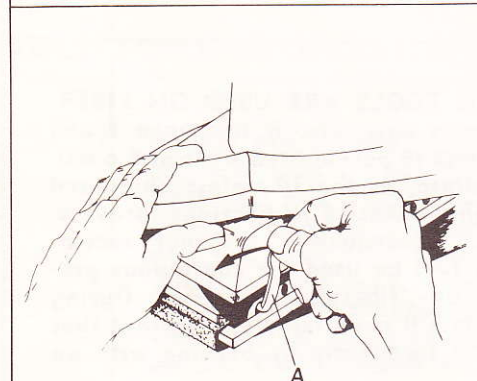

Fig. 3
INSTALLING SANDPAPER—**IMPORTANT—BE SURE POWER CORD IS DISCONNECTED FROM POWER SUPPLY.** (See Fig. 3) To remove the worn sandpaper, turn Sander upside down and grasp both ends of the dust skirt with the thumb and fingers of each hand, flex out and draw the skirt down from the platen. The skirt will unlock from the Sander providing access to the paper clamps. Remove the worn sandpaper by raising and opening the paper clamp levers (A) on each side of the platen. To install new paper, set the tool on the sheet with the same amount of paper extending at each end from under the platen. Fold the paper ends up and insert them as far as possible under the paper clamps and close the clamp levers, thus locking the paper in place. The dust skirt should then be returned to its operating position by grasping the ends and by flexing out and drawing the dust skirt down over the platen until it locks into position.